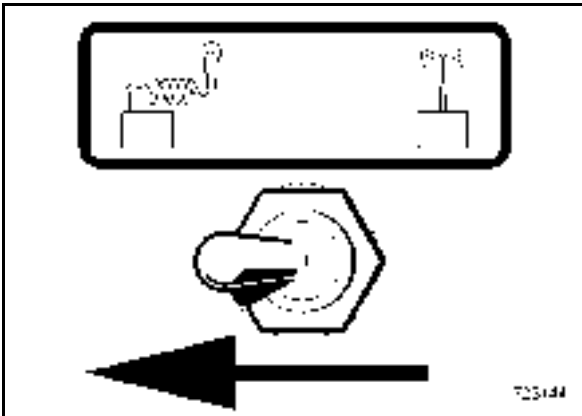

Fig. 41
- Before starting the engine switch the toggle switch (Fig. 41) to the left to position "Cable operation"